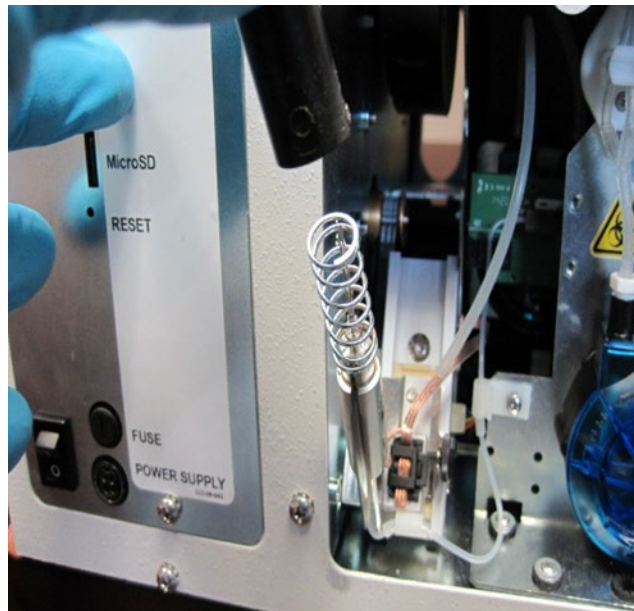

Figure 11
- 3.5. After removing the Thumb Screw, the Probe Tube assembly and the Needle Spring can be removed from the Needle Tip. Figure 11